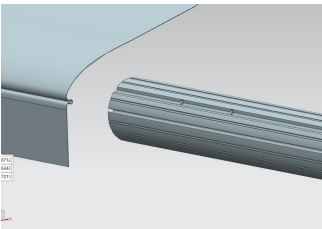
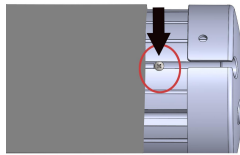
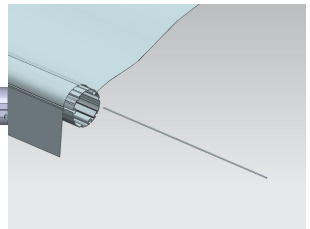

Figure D10
Figure D11
Figure D12
3.5 Open the fabric, insert the fabric into the slot of the roll tube, then insert the front end of the fabric into another slot on the roll tube, and then fix the Screw B to prevent the fabric from moving, next insert the fabric strip into the slot. (Figure D10, Figure D11, Figure D12)